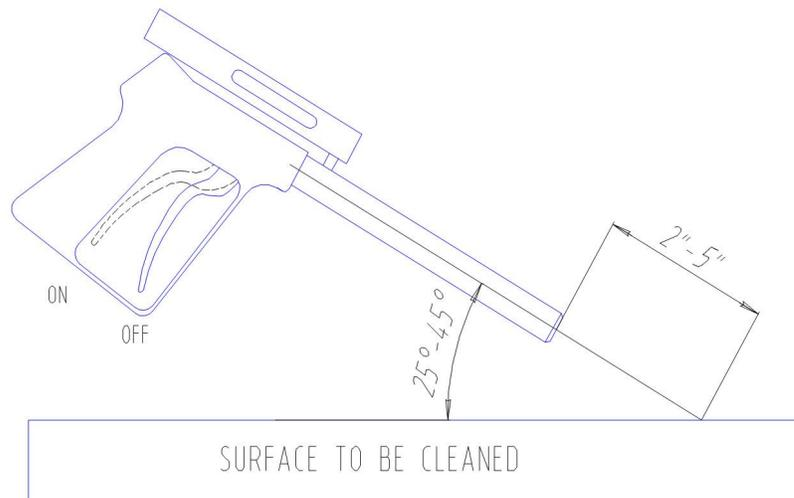

Figure 5.3 – Zero-thrust gun Position for Best Results
- 9) With the zero-thrust gun submerged, pull the trigger to the open or ON position to release dead-headed pressure in unit while attempting start-up of the unit. Release trigger at once. (See figure 5.3)
- 12) Activate the cleaning cavitation stream by squeezing the trigger to the open or “ON” position (See Figure 5.3). Release trigger to stop the water flow and direct to bypass.
- 13) If the diver operating the unit must be replaced or the cleaning operation must be interrupted or terminated, turn the unit off **and then release the water pressure in the hose(s) by squeezing the zero-thrust gun trigger to the open or “ON” position (See Figure 5.3) while under water.** Revert back to step 5.2 of the operating instructions when the diver or replacement is ready to continue cleaning.
- Pull the zero-thrust gun trigger to the open or “ON” position (See Figure 5.3).
When the diver is ready to commence cleaning operations, ensure that the zero-thrust gun trigger is in the open or “ON” position (See Figure 5.3), the zero-thrust gun is submerged in the water and the feed pump is operating prior to starting the electric motor. Ensure that the power unit operator and other people working in the vicinity of the power unit wear appropriate hearing protection when the unit is running.
2. **The most efficient operating technique is to hold the nozzle 2-5 inches (5-8 cm) away from the surface to be cleaned and at a 25 to 45 degree angle to the surface being cleaned (See Figure 5.3).** The diver needs to observe the shape of the cavitating jet cone. At greater depths, the higher ambient pressure will cause the jet cone to be shorter. The widest zone of the cone is the most efficient part of the cavitating jet. Placing the nozzle closer than 2 inches (5 cm) from the surface being cleaned will not allow for efficient cavitation performance and will degrade the cleaning capability of the CaviBlaster system.
4. If the diver operating the unit must be replaced or the cleaning operation must be interrupted or terminated, turn the unit off **and then release the water pressure in the hose(s) by squeezing the zero-thrust gun trigger to the open or “ON” position (See Figure 5.3) while under water.** Revert back to step 5.2 of the operating instructions when the diver or replacement is ready to continue cleaning.
5. Squeeze the zero-thrust gun trigger to the open or “ON” position (See Figure 5.3) to release the water pressure remaining in the hose(s) **while the zero-thrust gun is submerged.**